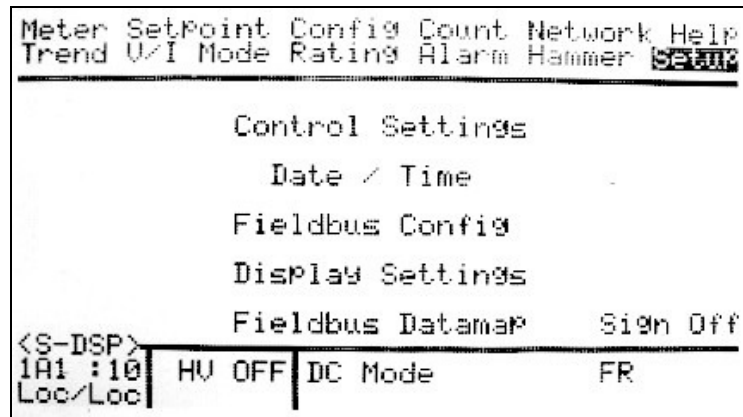
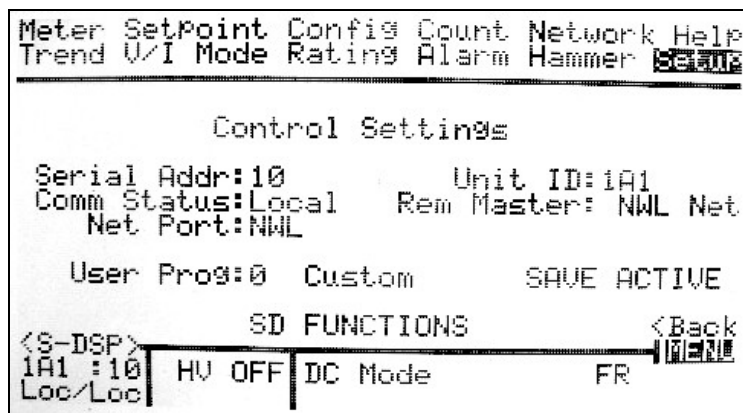

Figure 1-2a
Figure 1-2b
When you are connected to the network port, the display will search the network and find all of the units on it. They will be displayed based on the parameters entered in the **Control Settings** screen (fig. 1-2b), which is accessed from the **Setup** screen (fig. 1-2a).
- The individual GVC controls on the network must also have unique addresses. These are defined in the **Serial Addr** parameter in fig. 1-2b. The **Unit ID** parameter is a 4 character alpha-numeric designator that can also be assigned to uniquely identify each T/R set being controlled.